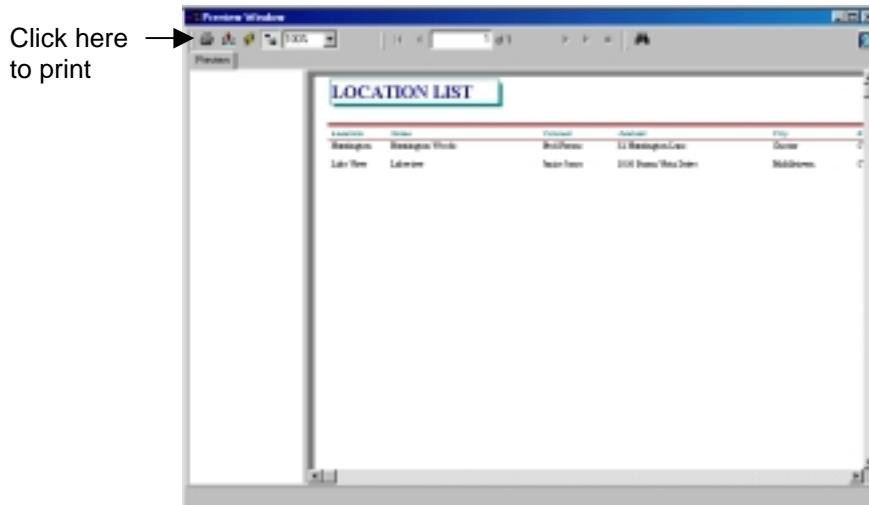

Figure 5.7 Location List Report
2. The Location List report will be open. You can view it on screen or click the printer icon to print the report (Figure 5.7)